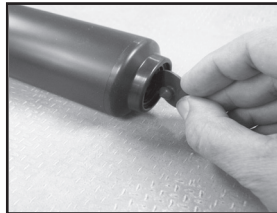

Figure 9
4. Inspect check valve in bottom of barrel. If worn or damaged, remove and replace by pressing into hole in bottom of barrel. **(See Figure 9)**